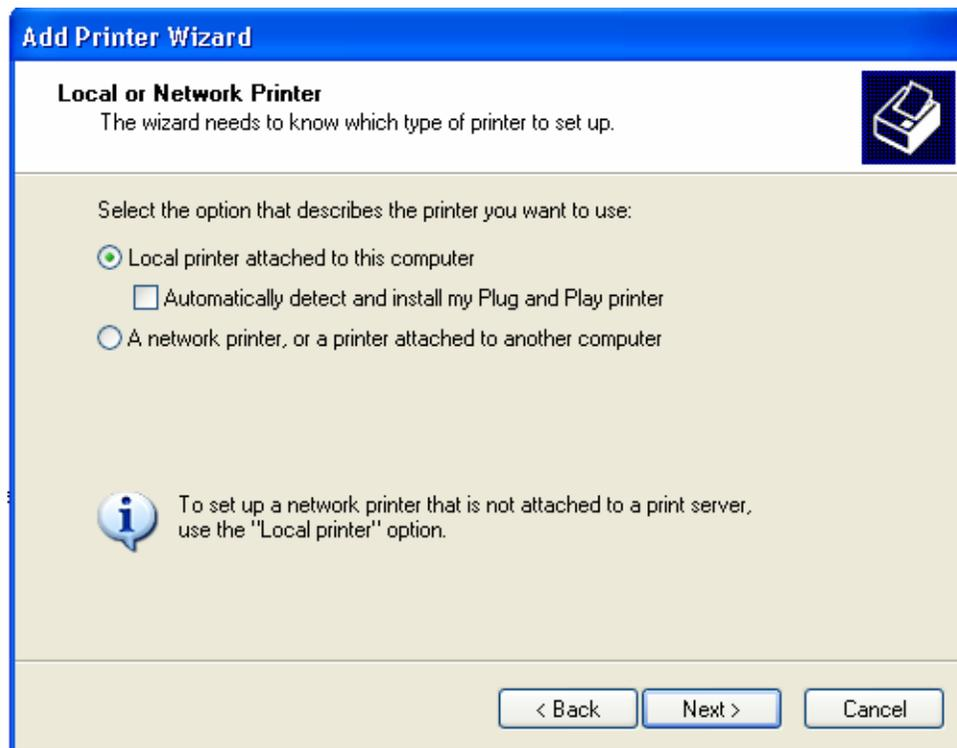

Fig. 4-5 Print Driver Installation
STEP 5: Choose **LOCAL PRINTER** and click **NEXT STEP** (see fig. 4-5)